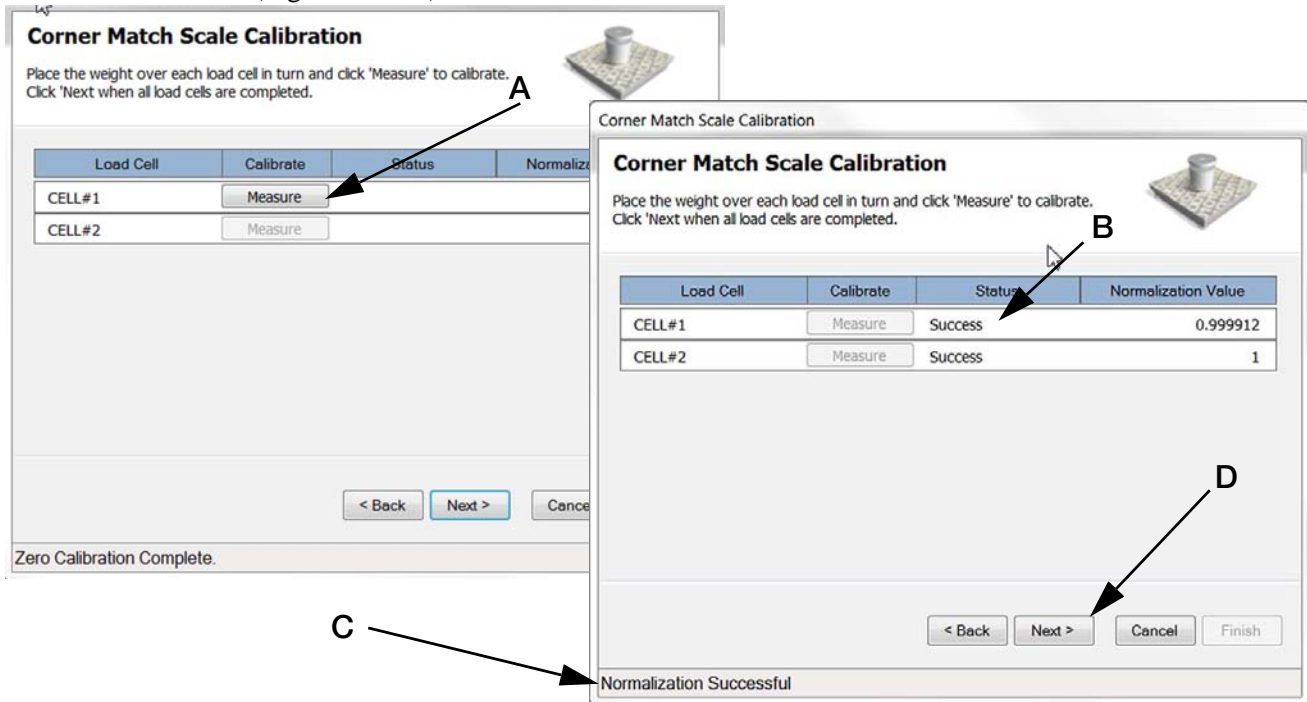

Figure 4-13. Load Cell Calibration
8. Press *Measure* (Figure 4-13 A).
9. Load Cell #1 Status will read **Success** (Figure 4-13 B) and Load Cell #2 *Measure* will become available. Repeat steps 9-11 for Load Cell #2.
10. When both load cells have been calibrated (status reads Success for both Cell #1 & #2, Figure 4-13 B) and the **Normalization Successful** message appears (Figure 4-13 C) press **Next** (Figure 4-13 D).